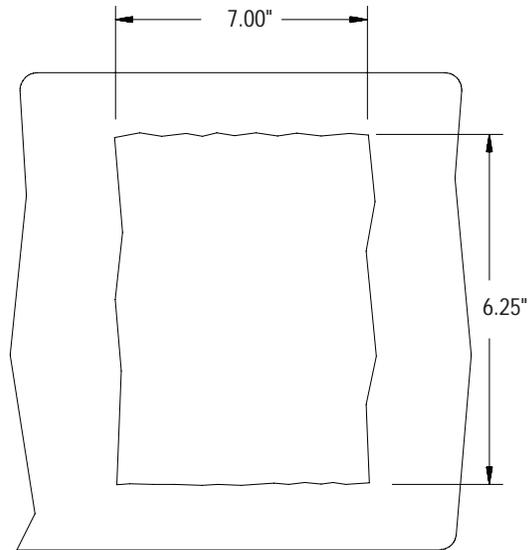

FIGURE 1
- 1) Cut a hole in the desired mounting location to the dimensions shown in Figure 1. Make sure this hole is properly oriented to a structural member of the vehicle for a secure mounting. This installation may require the use of spacers or longer mounting screws to bring the product to the desired orientation with the exterior surface. In some installations it may be necessary to fabricate a special adaptor plate to achieve the desired position on the vehicle.